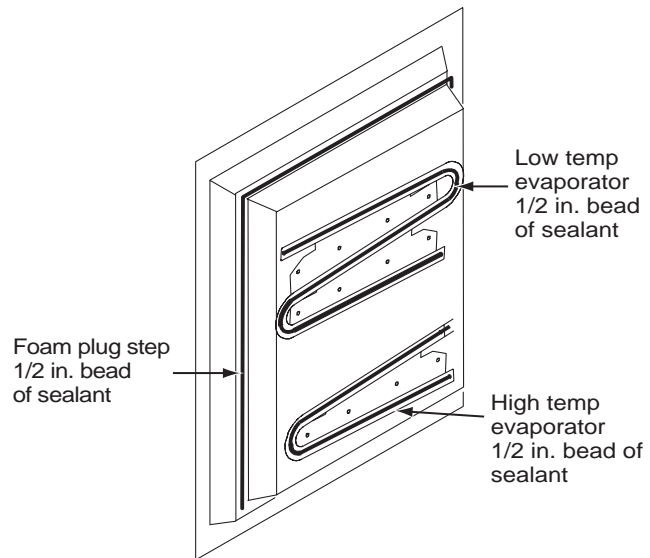

Figure 33. Application of sealant
2. Apply a 1/2 inch bead of sealant to the cooling unit's low and high temperature evaporators, and to the foam plug step. See Figure 33, page 36.